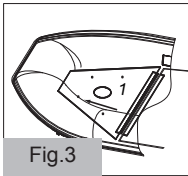

Fig.3
c. Lift the middle section a bit and create a roof-like structure. (Fig.3)